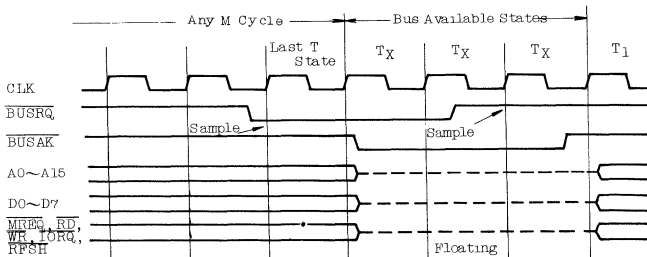

FIGURE 10. BUS REQUEST/ACKNOWLEDGE CYCLE
- Fig. 10 Bus Request/Acknowledge Cycle
Figure 10 illustrates the timing for a Bus Request/Acknowledge cycle. The $\overline{\text{BUSRQ}}$ signal is sampled by the CPU with the rising edge of the last clock period of any machine cycle. If the $\overline{\text{BUSRQ}}$ signal is active, the CPU will set its address, data and tri-state control signals to the high impedance state with the rising edge of the next clock pulse. At that time any external device can control the buses to transfer data between memory and I/O devices. (This is generally known as Direct Memory Access [DMA] using cycle stealing).